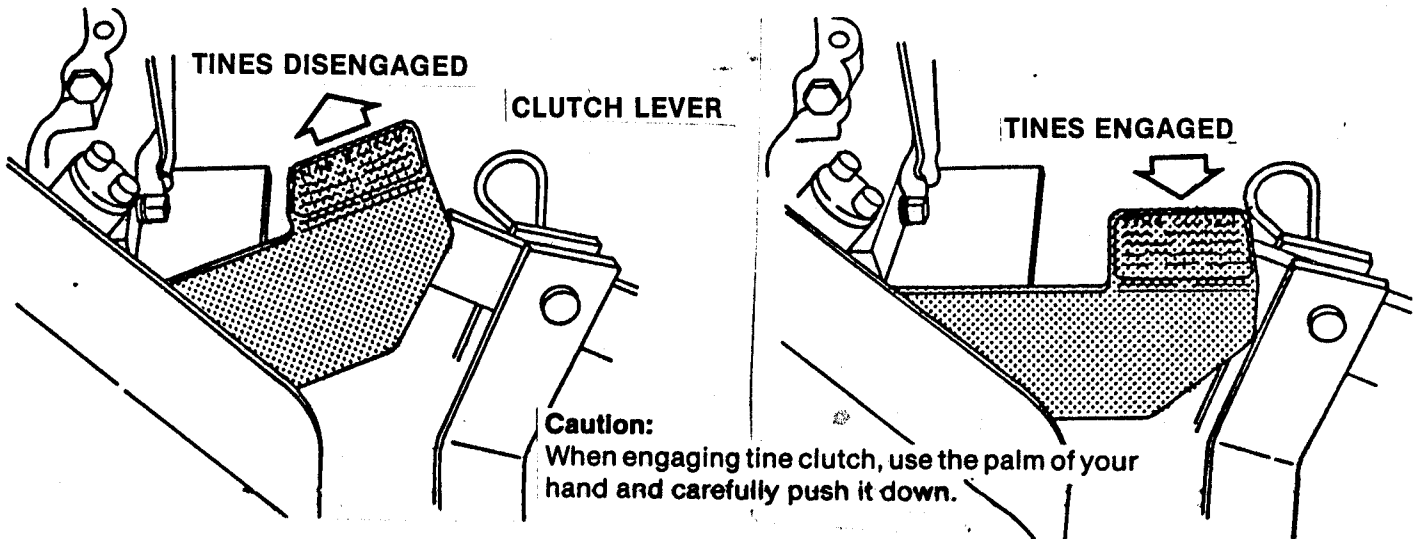

FIGURE 13
2. Tine clutch is completely disengaged when clutch lever is lifted away from the center stabilizer bar and locks into position (approximately 45°). Refer to Figure 13. The tine clutch is in the automatic mode, when engaged to the lowest (horizontal) position. To begin tilling, engage tine clutch and lower tiller with the lift handle. To stop tilling, raise tiller completely and secure safety strap to fender and dis-engage the tine clutch.